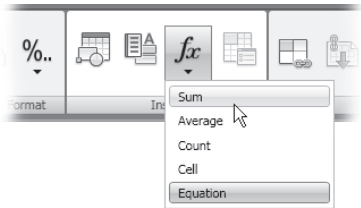

Figure 9.24
- 2. Click the Formula tool in the Table tab's Insert panel, and select Sum, as shown in Figure 9.24.
In the previous example, you saw how you can use the Sum option in the Formula drop-down menu. If you look again at the options in that menu (shown in Figure 9.24), you'll see the Equation option. If you select that option, you can enter your own formula directly in the cell. The Equation option simply adds the equal sign to the cell before you start typing.